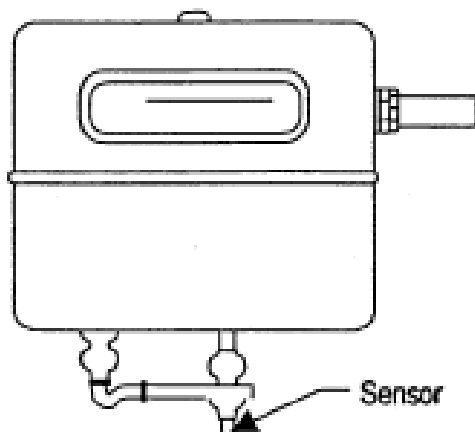

Figure 2. Sensor in meter
1. Remove the bottom cover, glass, and valve. Locate the sensor (Figure .2).